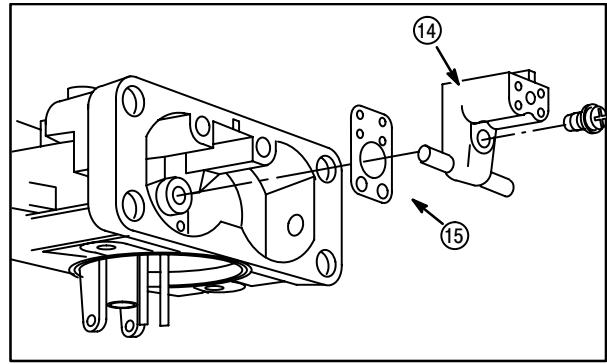

Fig. 121
10. Remove nozzle body (14), **Fig. 121**. Discard gasket (15).